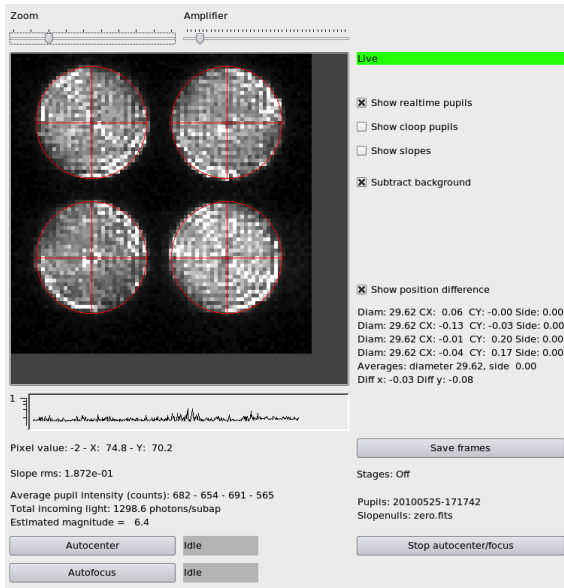

Figure 6 CCD39 GUI after cube angle fine-tuning and in closed loop
6. Close Loop	Press StartAO in the "AOS Commands" GUI. See Figure 6.